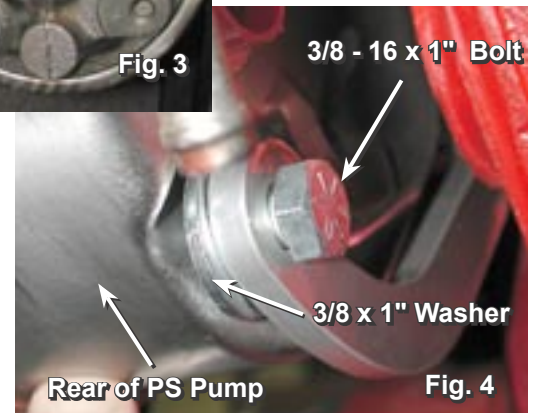
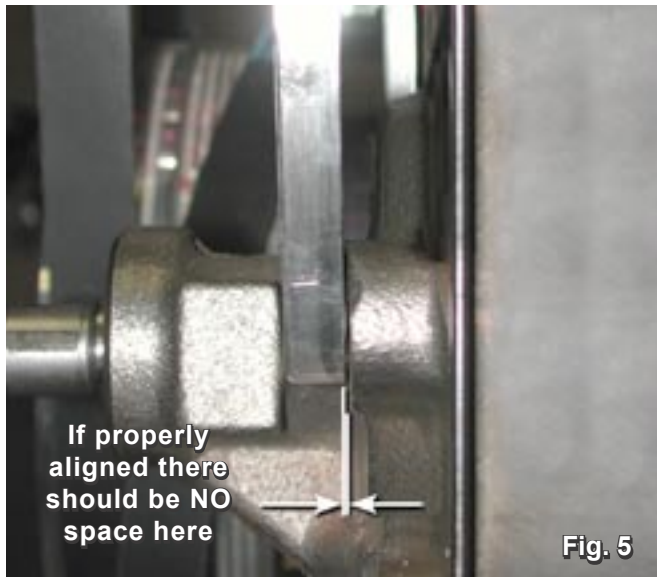
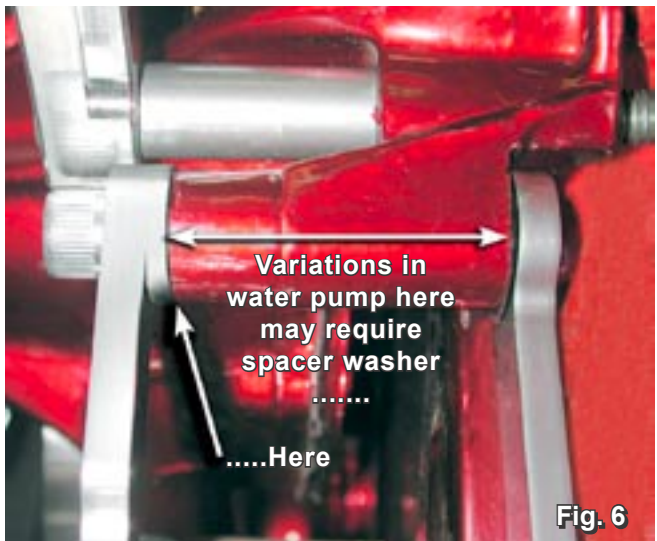

Fig. 4
Fig. 5
Fig. 6
4. Mount the (20176-B) Rear Support Bracket to the power steering pump using one (S312) 3/8-16 x 1" HHCS & two (S664) 3/8 x 1" x .080 spacer washers. (fig. 4) Do not tighten at this time. (Note; due to variations of water pump boss castings, additional spacer washers may be needed.)
6. Referring to (fig. 5), the power steering mounting face should meet the back of (20151-A) Power Steering Bracket. If not, use spacer washers in the appropriate places (fig. 4, fig. 6) to properly align pump.
**Important Note:** Due to variations in water pump boss castings particularly in aftermarket and polished pumps it may be necessary to add spacer washers between (20176-A) Front Support Bracket and the water pump boss. (fig. 6) [ !Á spacer washer between the (20176-B) Rear Sup] [ ic Óæ & ^ ã ä Á [ , ^! Á c ^ ^ ã \* Á { ] É ç È D U @ Á Á & ! ! ^ & ç ã } { ^ } É